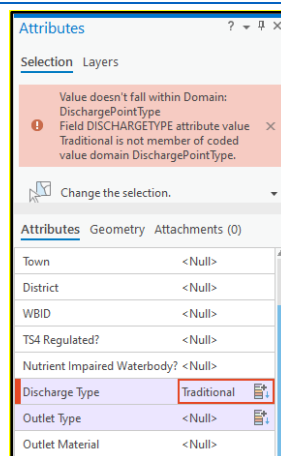

Figure 61
- ✓ Check for attributes that are not domain values. When viewing a selected feature in ArcGIS Pro, values that are not within the assigned domain for a field will be highlighted red in the Attribute pane, as shown in Figure 61, below.